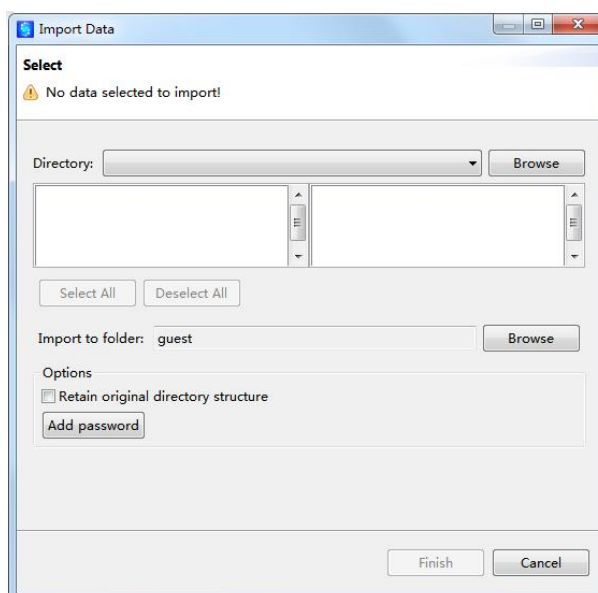

Figure 1.67 Data import dialog in user node
③ Open Local Folder: open the directory of current user in File Manager.
④ Upload: upload data to the predefined FTP server. The FTP server can be configured using command *syscf*.
⑤ Import: import data. A dialog box will be opened and you can select the directory to find the data you want to import. The default directory is the user's directory (Figure 1.67). Refer to 1.3.1 File for other functions.